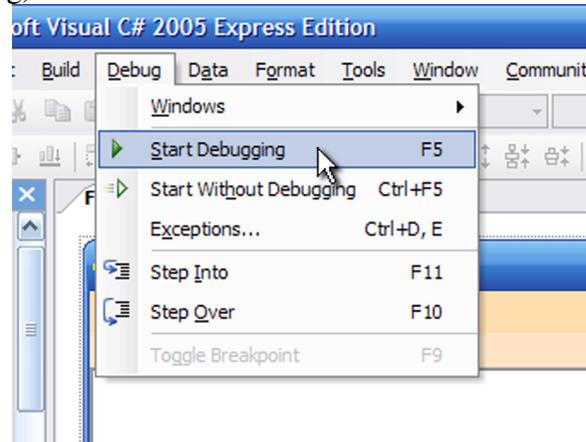

Figure 17: Start debugging
- In the Express IDE menus, select Debug and click Start Debugging. (Figure 17: Start debugging)